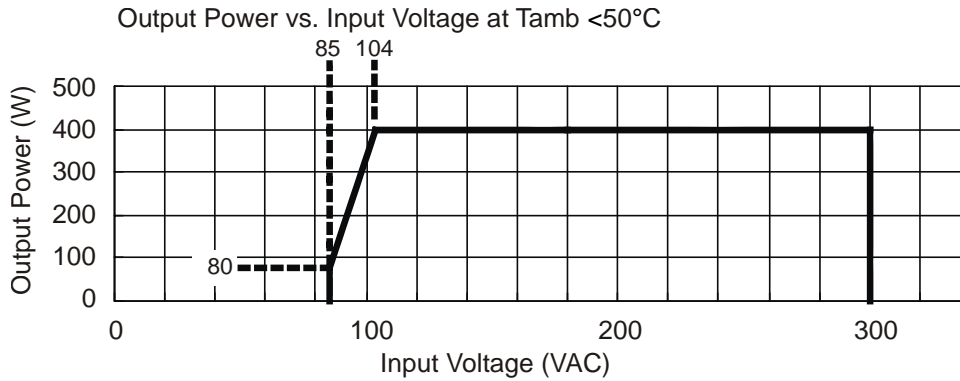

Figure 2
2.1.5 Power Derating Based on Voltage: The Rectifier Module power varies with changes in input voltage and output voltage. It uses an advanced power limitation method. The lower input threshold is 104 VAC. The Rectifier Module can provide its maximum rated power (400W) as long as the input voltage is within the range of 104 to 300 VAC. Below 104 VAC, and down to 85 VAC, the Rectifier Module will continue to operate normally but will be in a power derating mode. When operating at 85 VAC, the Rectifier Module can deliver 20% or more of its rated output power. The relationship between the output power and input voltage is illustrated in Figure 2.
Note: As depicted in Figure 2, the output power will derate from 100% (400W) of the rated capacity as the input voltage drops below 104 VAC, and to 20% (80W) of the rated capacity as the input voltage falls to 85 VAC.